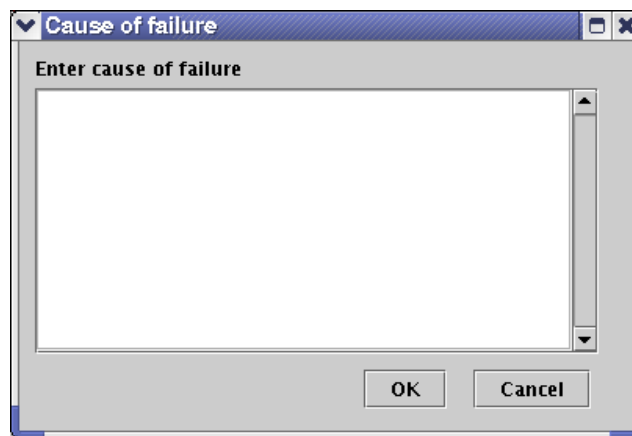

Figure 5-24. Cause of Failure Window
5.4.1.7.2 Cause of Failure Enter Button. The **Cause of Failure Enter** button allows the operator to describe the cause of a particular failure. After the button is pressed, the Cause of Failure window (Figure 5-24) will appear. The operator types a description of the cause of failure into the window. To save the data, the operator needs to select the **OK** button and the window will close. If the **Cancel** button is pressed while the window is open, the description in the window will be deleted, and the window will close.